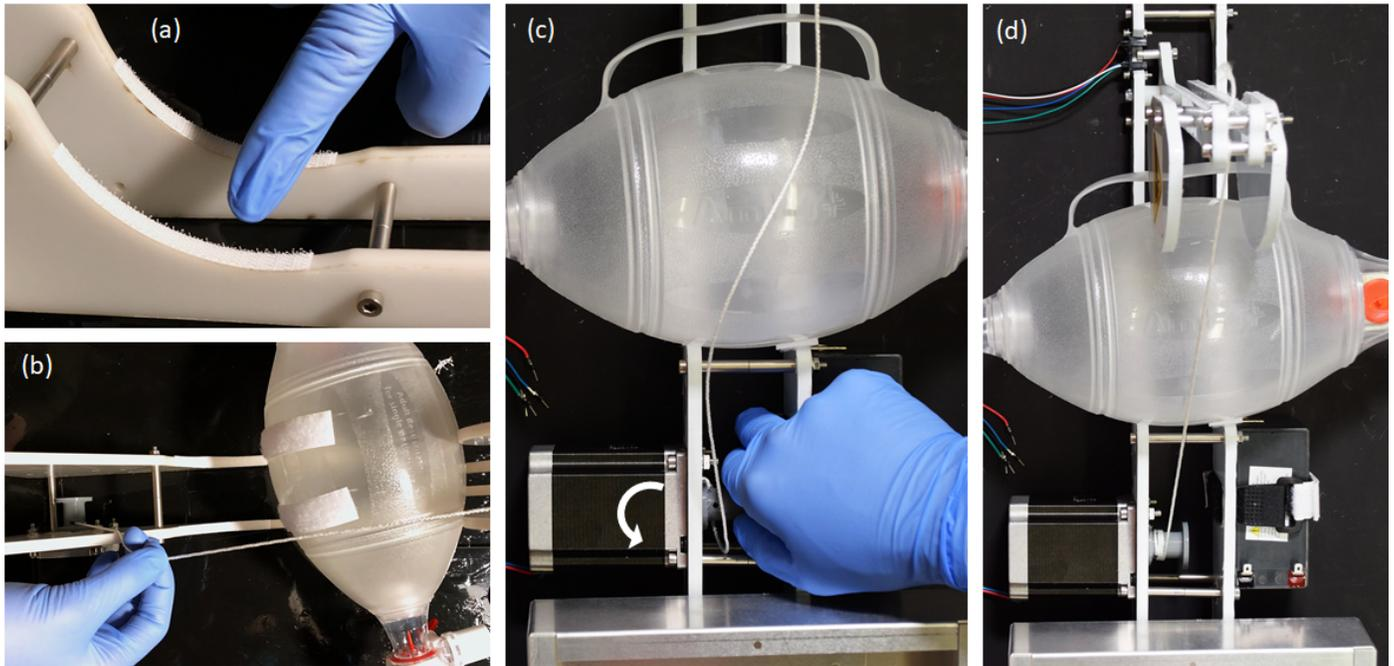

Figure 27
Step 62: Place strips of hook and loop fastener (Velcro) along the bag cradles of **Base 1 [Part 9]** and **Base 2 [Part 12]** (Fig. 27). Place corresponding strips on the bag (Fig. 27). It is recommended to place the hook side in the cradle and the loop side on the bag.
Step 63: Place the bag in the cradle (Fig. 27) and rotate the **spool [Part 29]** in the clockwise direction to tighten the lever arm assembly onto the bag (Fig. 27). Rotate the **spool [Part 29]** until the **compressors [Parts 3 & 8]** just begin to depress the bag (Fig. 27). This should be approximately 2-3 turns of the **spool [Part 29]**.